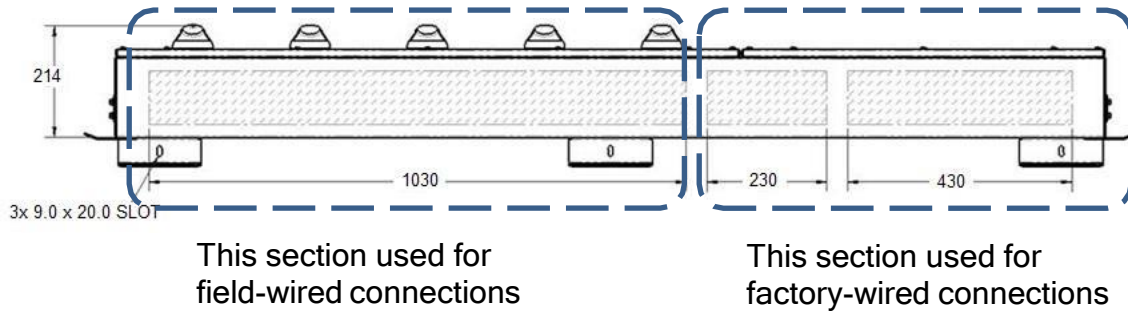

Figure 4.10 Re-Combiner Conduit Entry Locations
2. Note the target area for conduit connections for the PV circuits on the bottom face of the Re-Combiner, as shown in **Figure 4.10**.